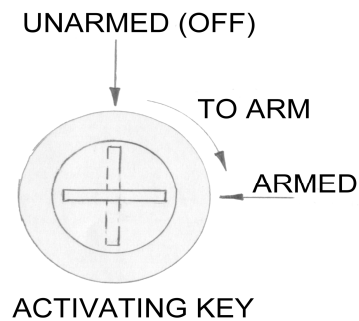

Figure 1
- 2) Turn the key to the unarmed position as shown in Figure 1.
- 6) Turn the key to the armed position as shown in Figure 1.